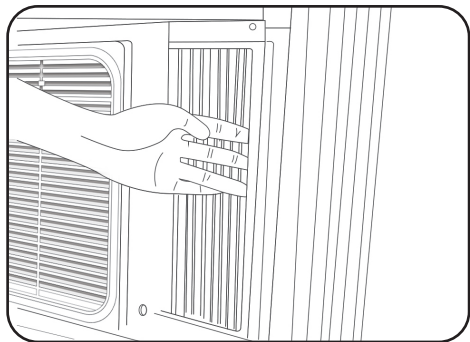

Fig.8
- Once the AC is placed properly, extend both the left and right accordion panels to the width of the window **(See Fig.8).**